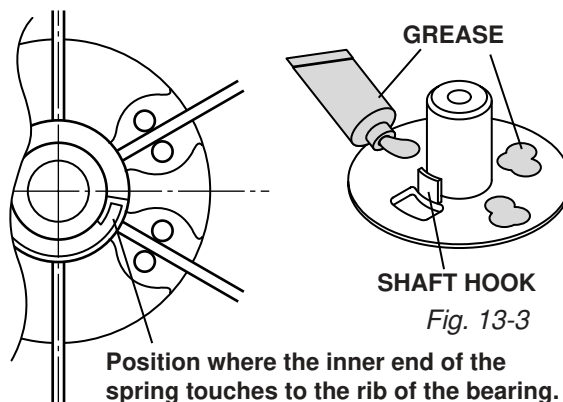

Fig. 13-4
- 2 Adjust the position of the inner end of the spring in the reel. (Fig. 13-4)